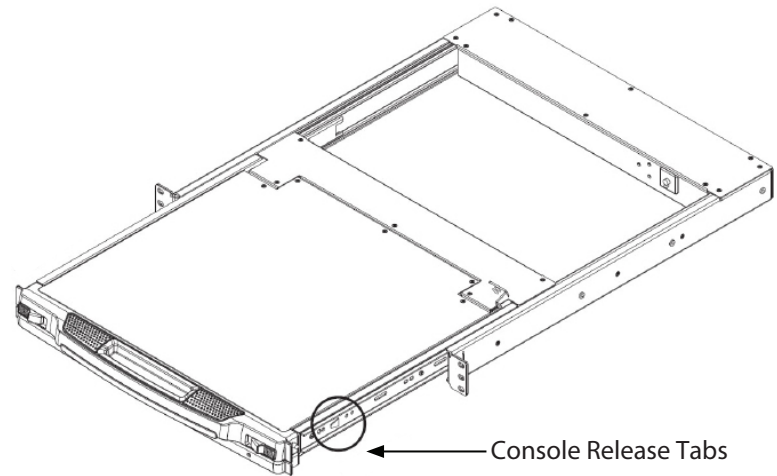

Figure 1
- Pull and release the Console Release Tabs, located on the sides of the rails. (Figure 1)